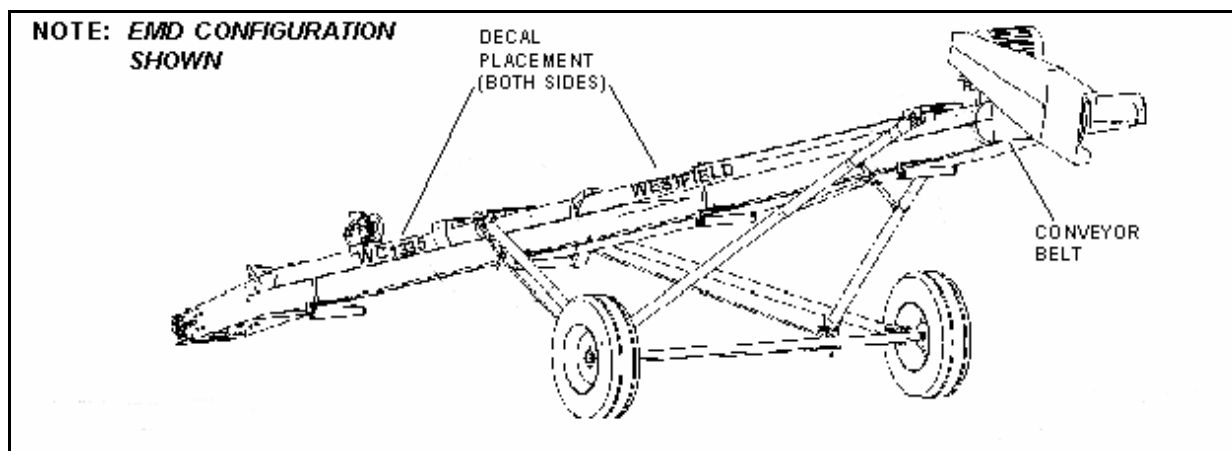

Figure 3.26
3. Place the Westfield decals on upper tube below the discharge end. Center decals top and bottom on top tube, and place them so that they are clearly visible from the ground. See Figure 3.26 for an example.